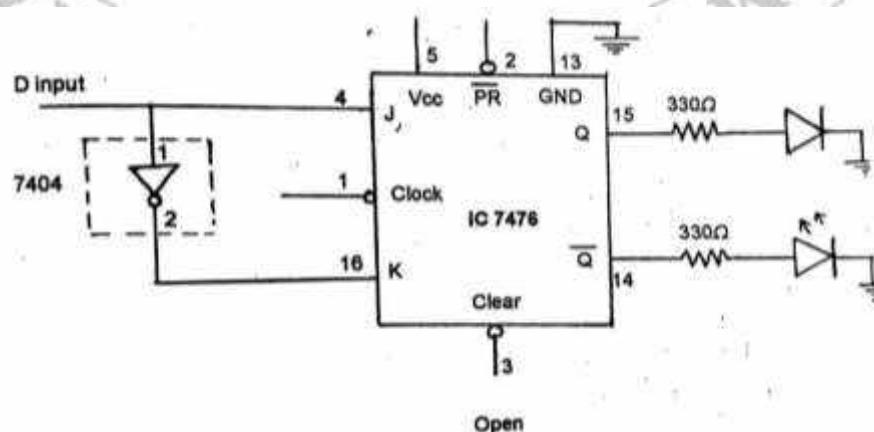

Figure 14.3 D FF using 7476
2. Make the connections as shown in figure 14.3 and 14.4